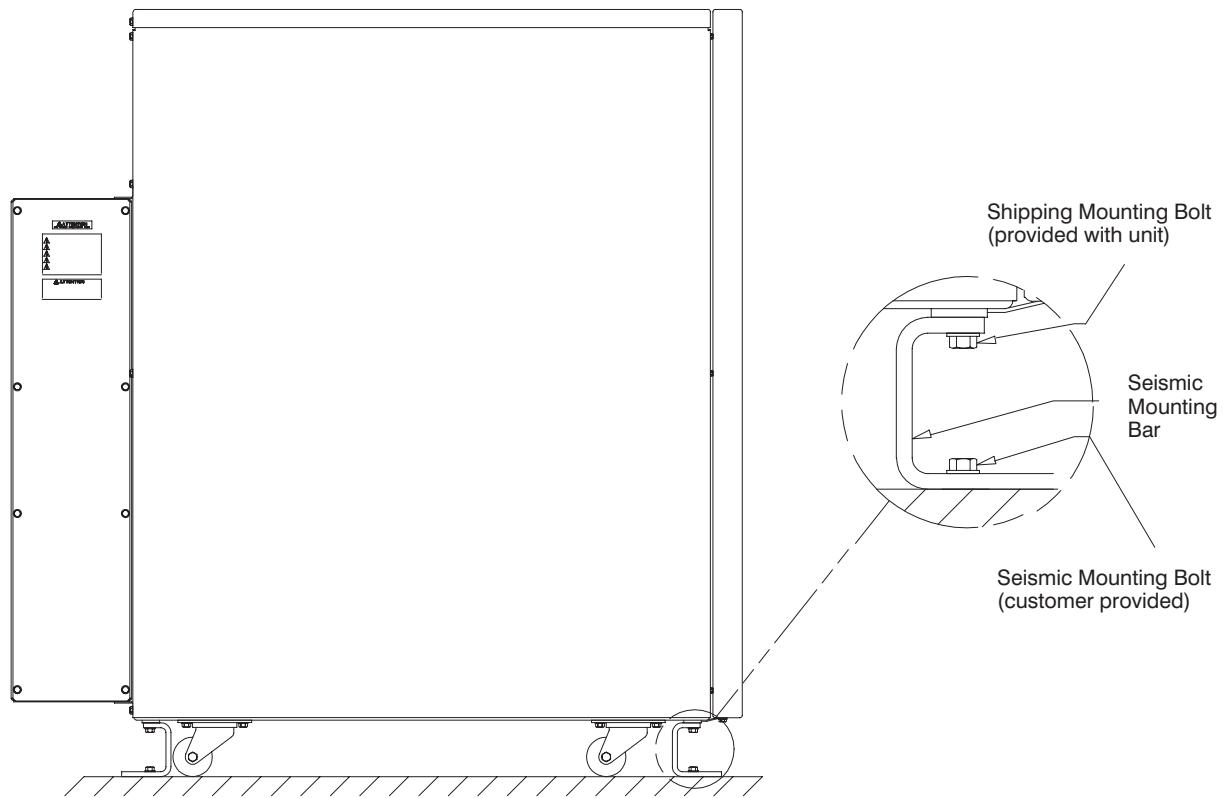

Figure 7. Seismic Mounting Detail (Left Side View)
7. Attach mounting bar with customer provided bolts to the floor at the front of each cabinet as shown in Figure 7.